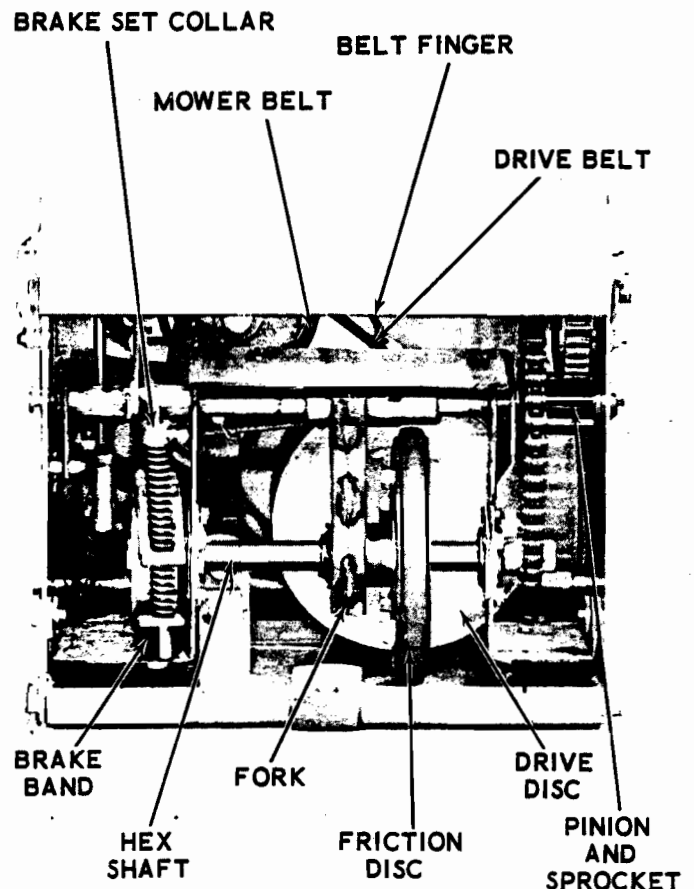

Figure 3
d. Remove the belt finger (Figure 3) by removing cap screw and nut from side of frame. With shift lever in fourth speed, remove cap screw on opposite end of the belt finger. With shift lever in reverse position, remove belt finger. With shift lever in reverse, remove mower belt from engine sheave by rolling belt over sheave while rotating blade.
4. FRICTION DISC REPLACEMENT (See figure 3)
b. Adjust set collar (figure 3) against spring until brake band just clears brake drum.